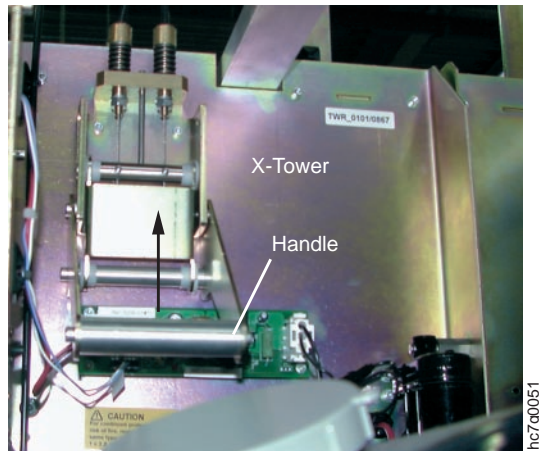

Figure 338. Unlatching the X and Y Towers
4. Unlatch the X and Y towers by pulling up on the handle located on the X tower, as shown in Figure 338.
15. Latch the X and Y towers by pulling down on the latch handle. (See Figure 338 on page 342 for the location of the latch.)